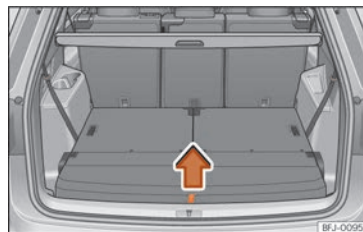

Fig. 126 In the luggage compartment: lift the luggage compartment floor.
- Grab the boot floor by the cord »» Fig. 126 and lift it in the direction of the arrow and remove it.